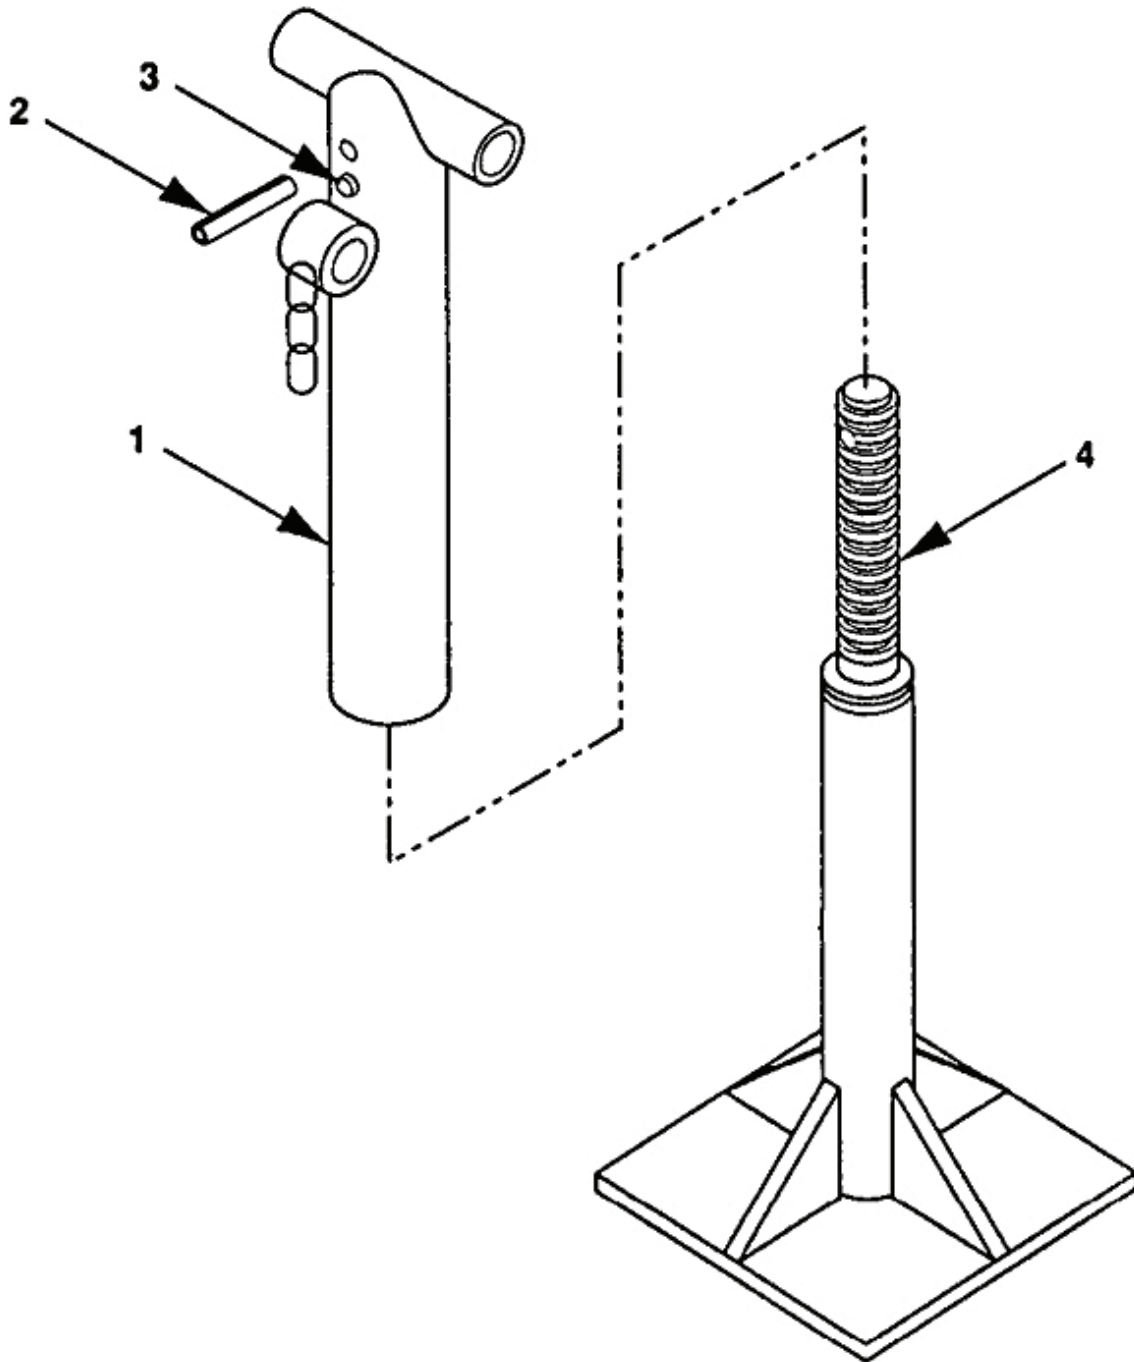

Figure 4-27 Leveling -Support Jack Repair, 1 Ton Trailer.
- a. Clamp leg assembly in a vise with spring pin (2, figure 4-27) facing up.
- b. Drive the spring pin (2) out of upper leg (1) and remove leg base (4).
- c. If defective, remove lubrication fitting (3).